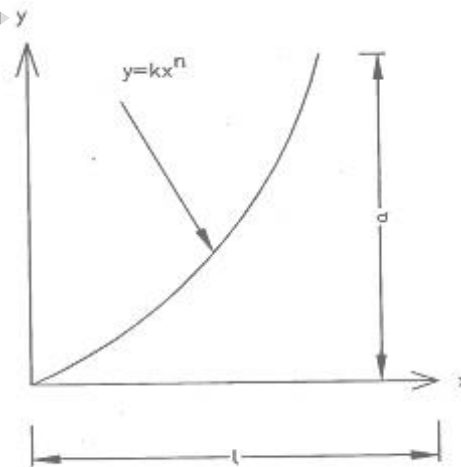

Figure 7
2. The area shown in figure 7 is revolved about x-axis to form a homogeneous solid of revolution of mass 'm'. Determine the mass moment of inertia of the solid about x-axis. [16]